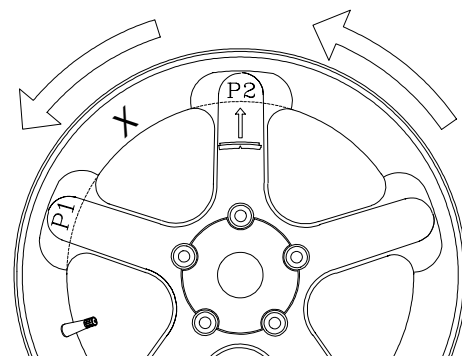

Figure 35
8. The display will read “**SPO 2**”. Locate the second closest spoke to top dead center and rotate the wheel to the top dead center position, press **F** Button again to store the position. See Figure 35.